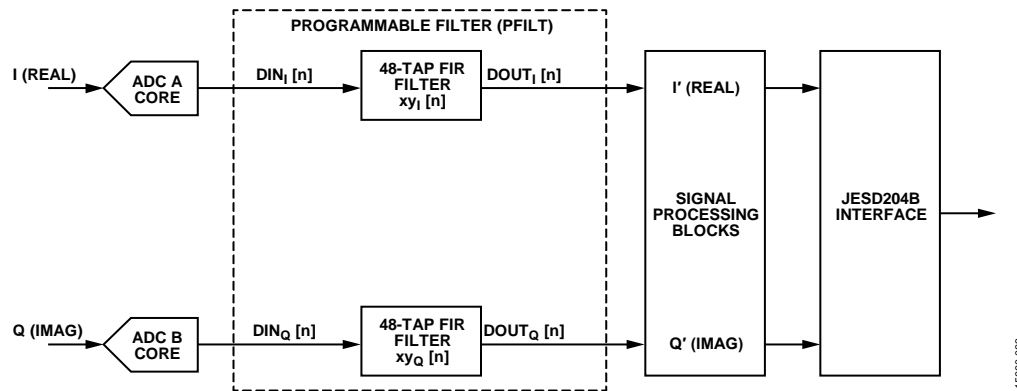

Figure 92. Real 48-Tap Filter Configuration
- Real 48-tap filter for each I/Q channel (see Figure 92)